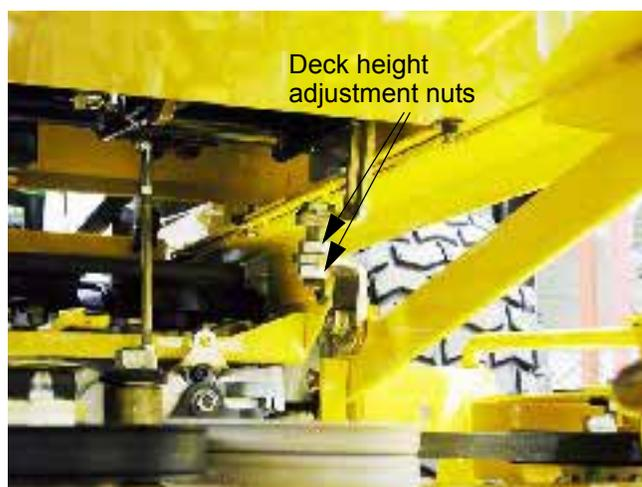

Figure 1.9
- 1.9. Adjust the threaded link at the left side of the deck, using two 3/4" wrench, so the height of the blade tips match. The right side link is not adjustable. See Figure 1.9.